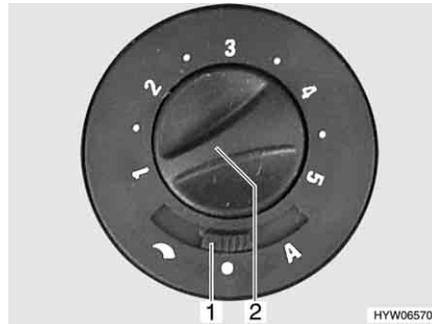

Fig. 127 Operating switch for circulation fan
- Set sliding switch (Fig. 127,1) to "☾" (manual control) or "A" (automatic operation).
- Turn the knob (Fig. 127,2) to set (manual control) or limit (automatic operation) the power of the circulation fan.
- Set sliding switch (Fig. 127,1) to "●" (off).